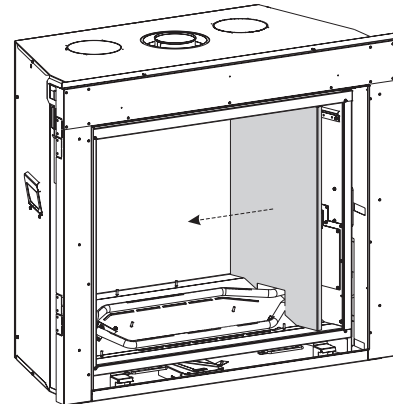

Figure 82
4. Remove right liner panel (**Figure 82**).